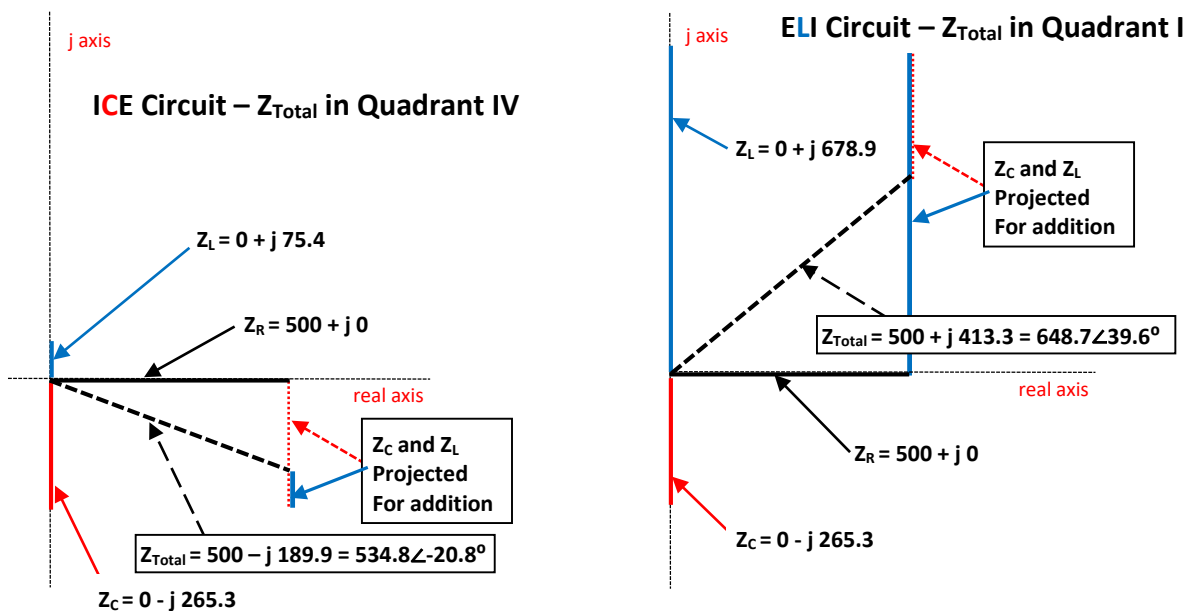

Figure 3.9: Impedance Plots for Example 3.4. Case 1: $L = 0.2 \text{ H}$ (Left Plot), Case 2: $L = 1.8 \text{ H}$ (Right Plot)
The phasors for the total impedance (Z_{tot}) for each of the two cases ($L = 0.2 \text{ H}$ and $L = 1.8 \text{ H}$) are calculated in Figure 3.8. An impedance plot is performed in Figure 3.9 to help verify the total impedance was calculated correctly.
* Case 1: $L = 0.2 \text{ H}$, $Z_{\text{Total}} = 534.8 \angle -20.8^\circ$ (see Fig. 3.9)	* Case 2: $L = 1.8 \text{ H}$, $Z_{\text{Total}} = 648.7 \angle 39.6^\circ$ (see Fig. 3.9)